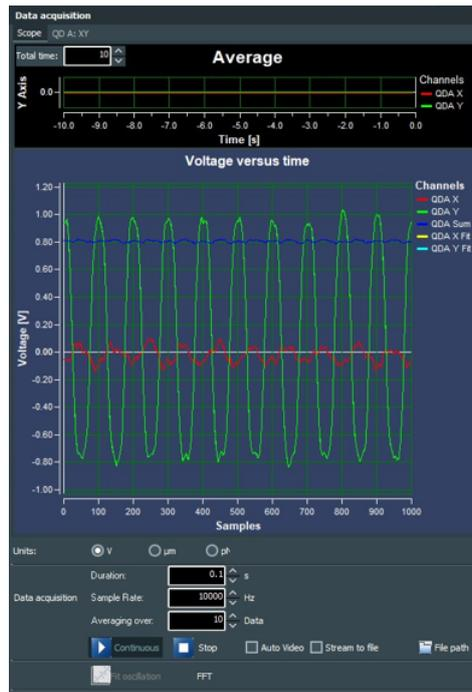

Figure 6.25: Response curve of a quadrant detector when correctly adjusted, Y oscillation
- Oscillate the bead ($Y=1 \mu\text{m}$, 100 Hz, 200 s). The X component should be close to 0 (see Fig. 6.25).